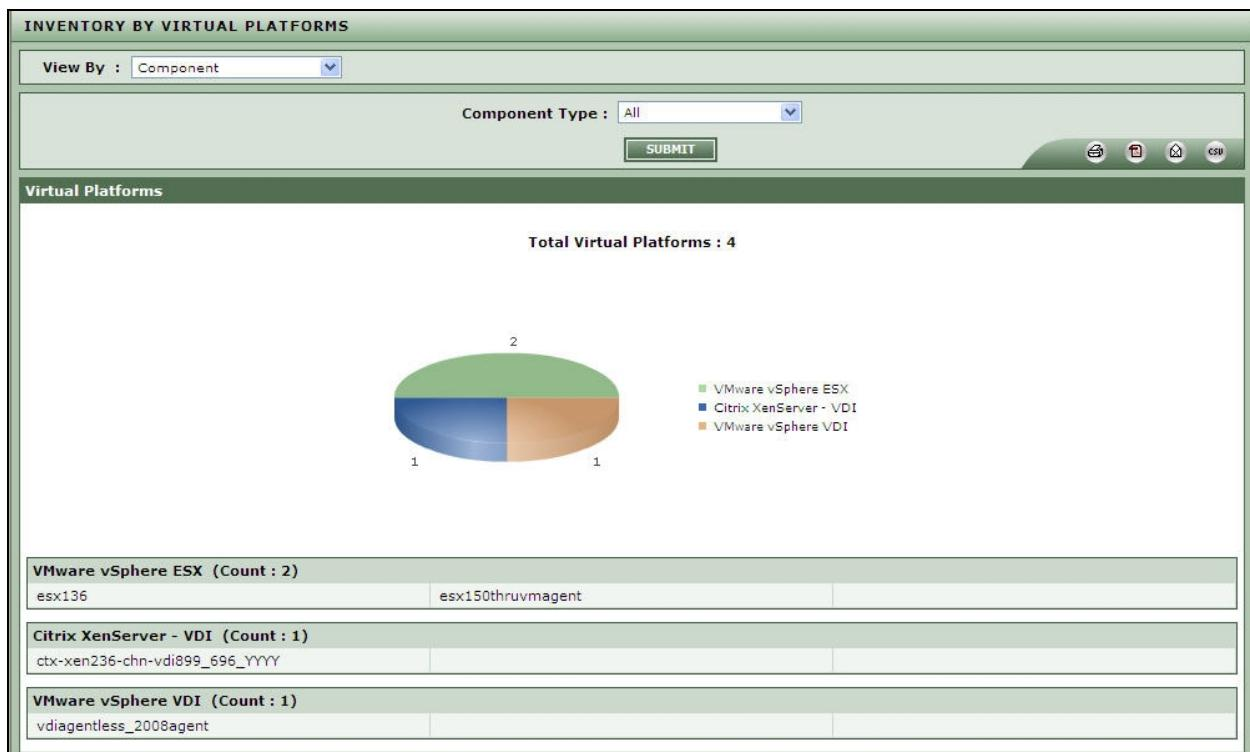

Figure 2.8: The details of all virtual platforms that are in use in the environment
2. Figure 2.8 will then appear. Figure 2.8 reveals the details of all virtualization platforms that are in use in the target environment. Accordingly, *All* is the default selection in the **Component Type** list.
3. If the **Component Type** chosen is *All*, then, Figure 2.8 will provide a pie chart depicting how many virtual hosts of each virtual platform are being currently managed.